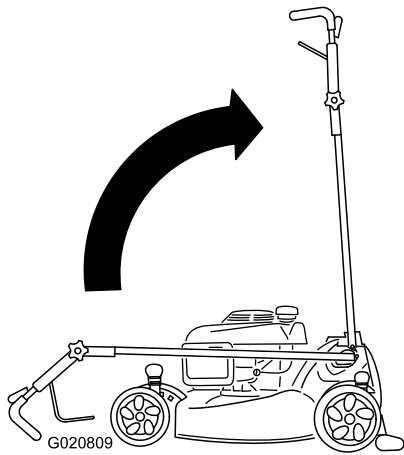

Figure 49
3. With the engine running and the blade engaged, spray a stream of water in front of the right rear wheel (Figure 49).
2. Move the handle to the upright position (Figure 49).